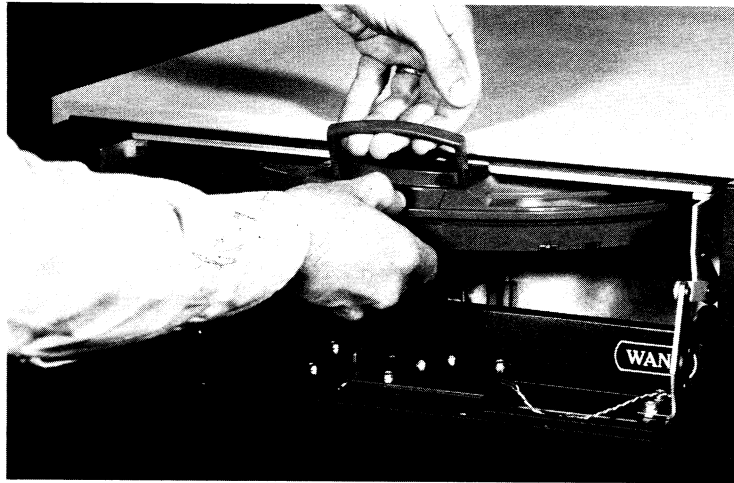

Figure 2-8. Loading the Disk Cartridge
- Step 5. Whenever a disk cartridge is removed from the disk unit, a replacement cartridge should immediately be loaded in its place. See Figure 2-8.